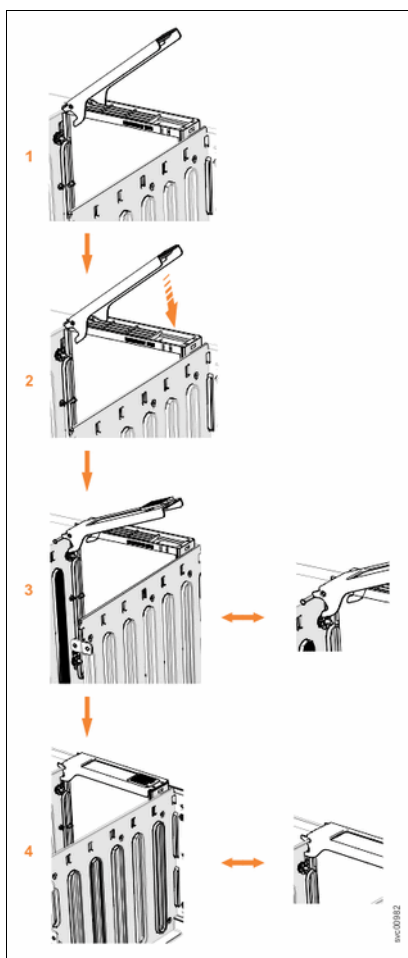

Figure 6-17 SAS flash drive installation in expansion enclosure
- b. Move the drive handle to the open (unlocked) position (1 in Figure 6-17 on page 182).
- c. Gently push the drive down until it stops and the bottom of the latch is aligned with the top of the partition. Ensure that the handle is not open more than 45 degrees from the drive carrier (2 in Figure 6-17 on page 182).
- d. Rotate the handle down to lock the drive assembly into the chassis (3 in Figure 6-17 on page 182).
- f. Ensure that the top toe of the latch is also fully engaged (4 in Figure 6-17).